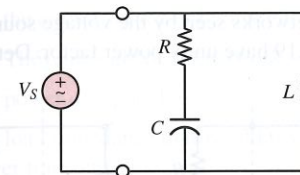

Figure P7.6
- 7.6** Compute the average power dissipated by the load seen by the voltage source in Figure P7.6. Let $\omega = 377\text{ rad/s}$, $\tilde{V}_s = 50\angle 0^\circ$, $R = 10\ \Omega$, $L = 0.08\text{ H}$, and $C = 200\ \mu\text{F}$.